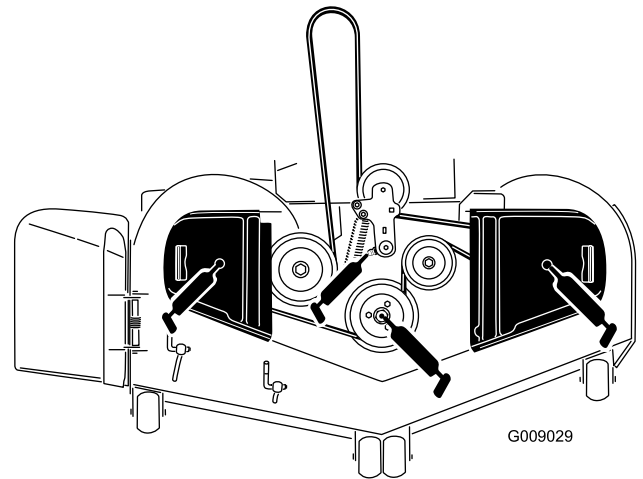

Figure 37
3. Grease the mower deck idler pulley pivot until grease comes out the bottom (Figure 37).
4. Grease the 3 spindle bearings until grease comes out the lower seals (Figure 37).
5. Grease the drive belt idler arm (Figure 37).